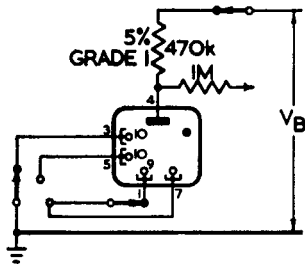

Fig. 3
4. The  $K_{1.9}$  1st guide and 2nd guide electrodes will be successively earthed through a suitable make before break type switch to cause 30 gaps to conduct in turn. The running voltage across each gap shall be within the specified limits. For this test the  $K_0$  and  $K_{1.9}$  electrode will be commoned. The test circuit to Fig. 3 is applicable. The measurement of the running volts is to be made between 0.1 and 2.0 seconds after the contacts of the make before break type switch have broken.